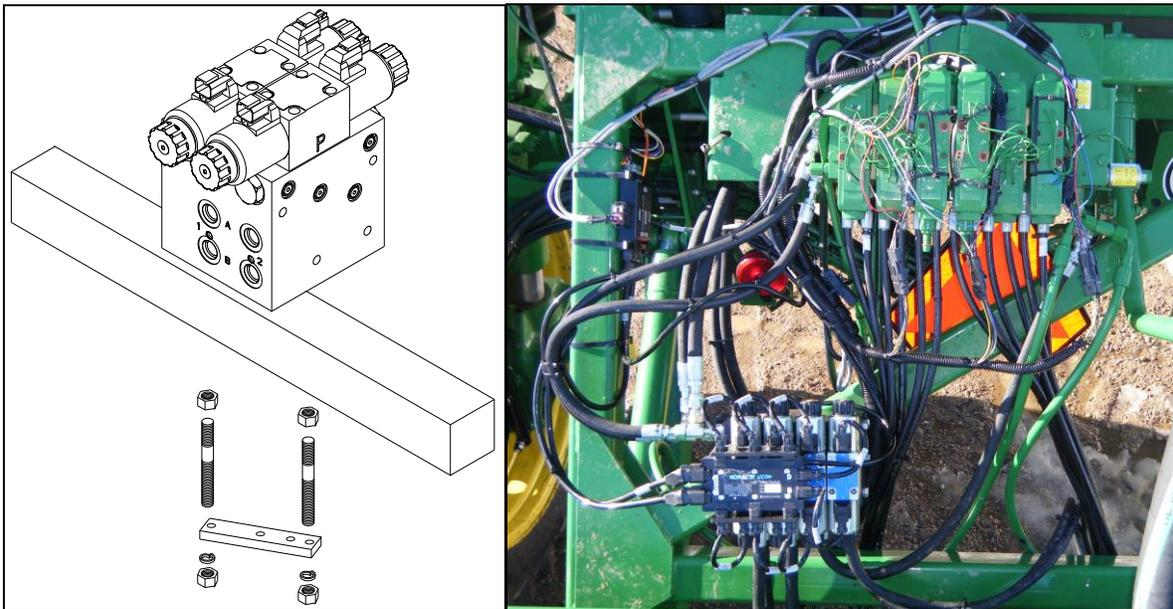

Figure 26: Valve Block Mounting
1. A good mounting location for the valve block on the John Deere is illustrated in **Figure 26**.